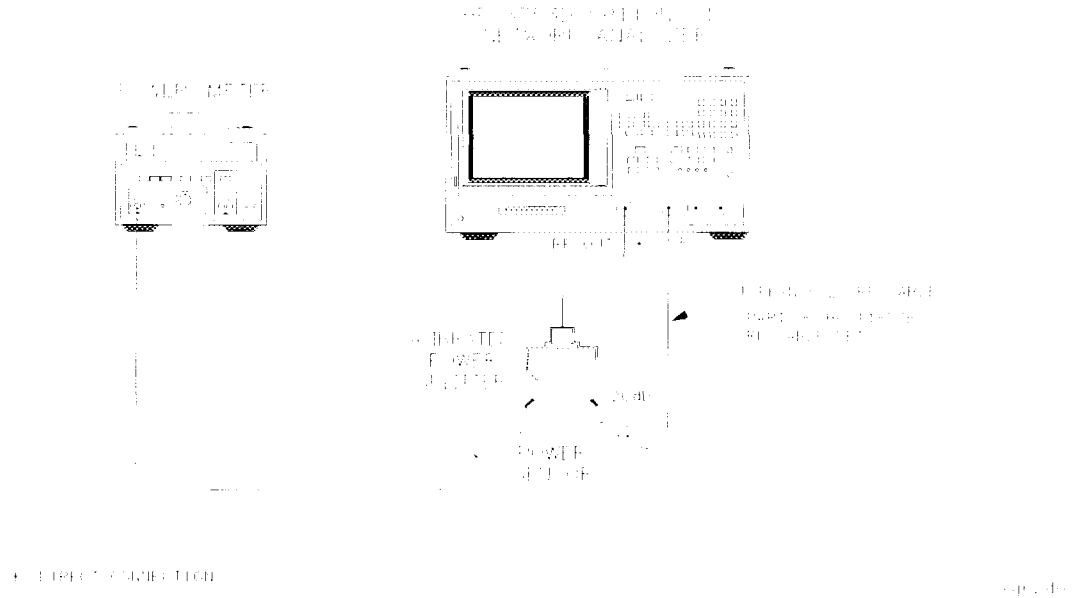

Figure 6-4. Power Range, Linearity, and Accuracy Test Setup
- 13** Connect the equipment as shown in Figure 6-4.